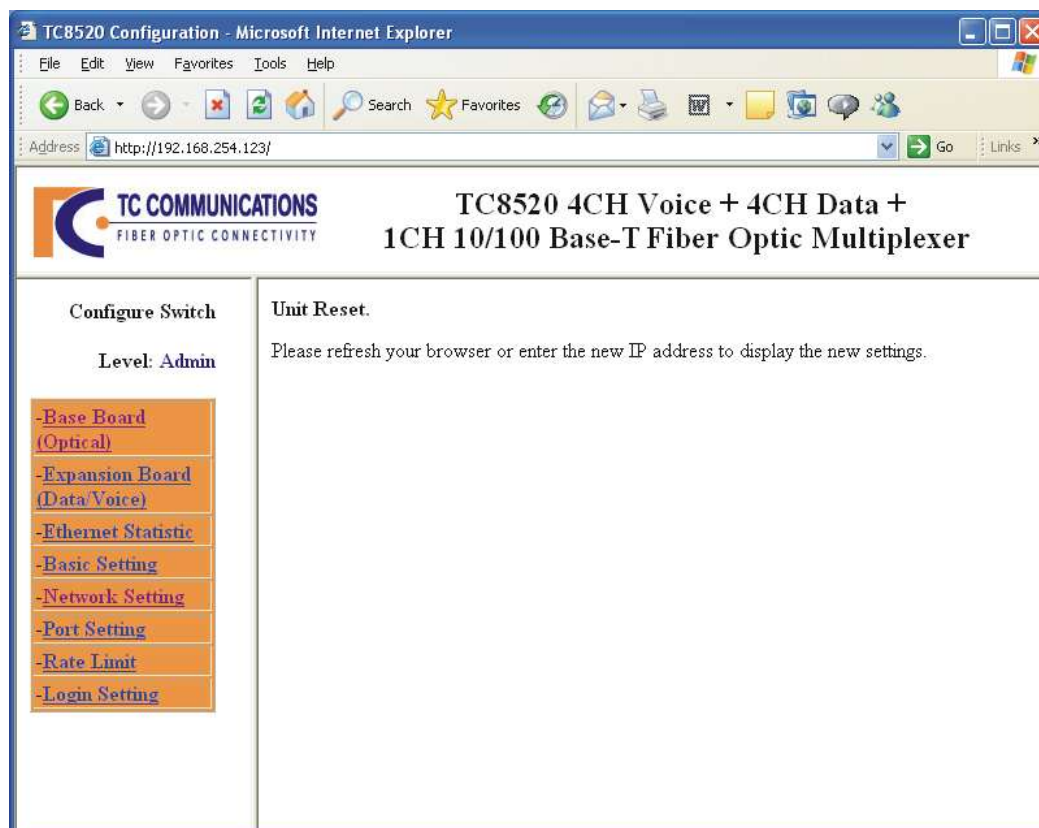

Figure 21. TC8520 Slave Configuration
- 1b) A second dialog box will prompt you to refresh the browser as in Figure 21 for the new IP address to save the new settings.